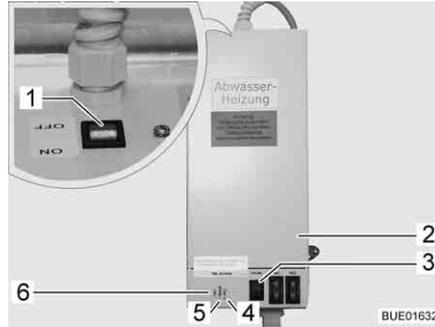

Fig. 234 Transformer with control unit
The 230 V AC/12 V DC transformer (Fig. 234,2) is installed in the wardrobe or in the storage area beneath the seating group, depending on the model.
- Indicator lamp (Fig. 234,5) lights up in green: Regulator in operation.
- Indicator lamps (Fig. 234,4 and 6) light up in red: Waste water pipes are warmed.
A test button (Fig. 234,3) is integrated in the housing with which the control unit can be operated for a short time. By pressing the test button, the function of the warming unit can be tested, even if the ambient temperature is above 5 °C.
- Turn switch (Fig. 234,1) on the transformer (Fig. 234,2) to "ON".
- Turn switch (Fig. 234,1) on the transformer (Fig. 234,2) to "OFF".